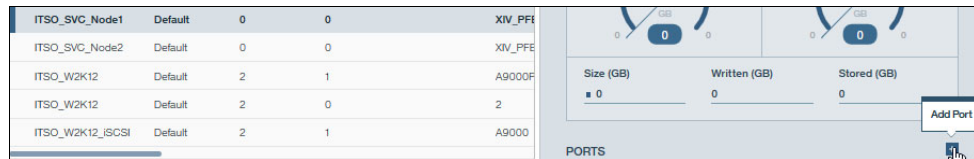

Figure 2-8 Adding ports to SAN Volume Controller nodes
4. Add the SAN Volume Controller host ports to the host definition of each SAN Volume Controller node by selecting it and clicking **Add Port**, as shown in Figure 2-8.